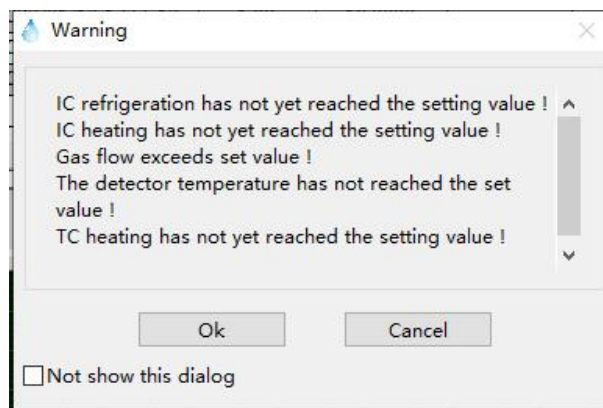

Fig 4.35
Step 7 Click  to start test. The system will give a reminder (Fig. 4.35) if the